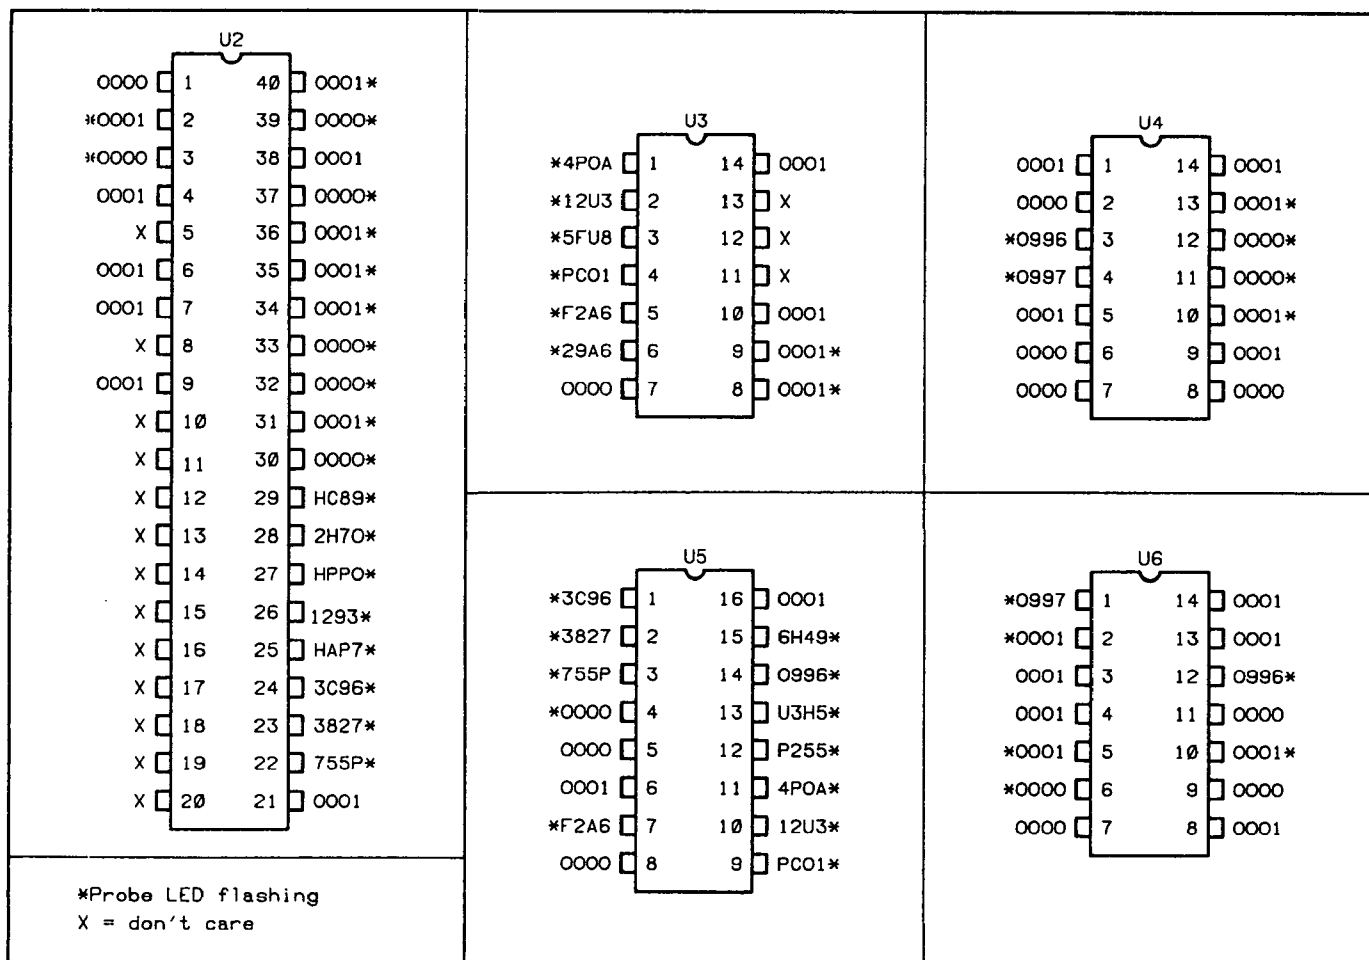

Figure 8-30A. 5350B/5351B A4 Signatures for Mode 1, Setup 2
3. Power on the counter and verify the signatures shown in *Figure 8-30A* for the 5350B/5351B, or *Figure 8-30B* for the 5352B.